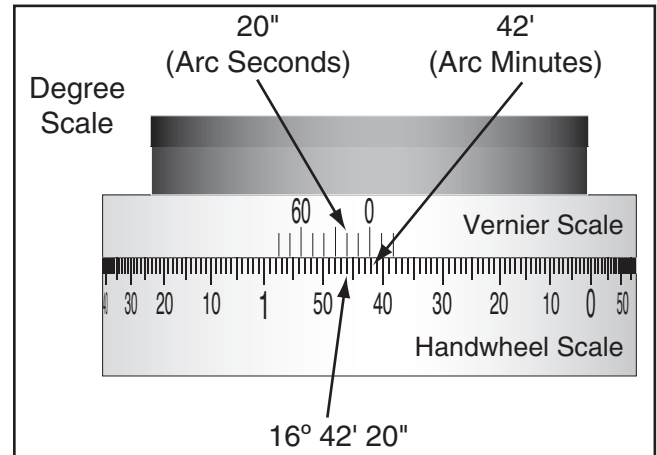

Figure 21. Table set at 16° 42' 20".
2. Slowly continue to turn the handwheel clockwise until the zero mark on the vernier scale aligns with the 42' mark on the handwheel scale (see the illustration in **Figure 21**).
4. Identify the mark on the handwheel scale that is immediately to the left of the vernier scale mark identified in **Step 3**, then slowly rotate the handwheel clockwise to align these two marks. The table is now set 16° 42' 20", as illustrated in **Figure 21**.